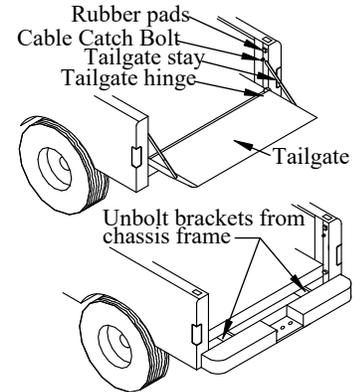

Figure 2: Remove hardware.
1. Remove the tailgate and tailgate hardware (Figure 2).